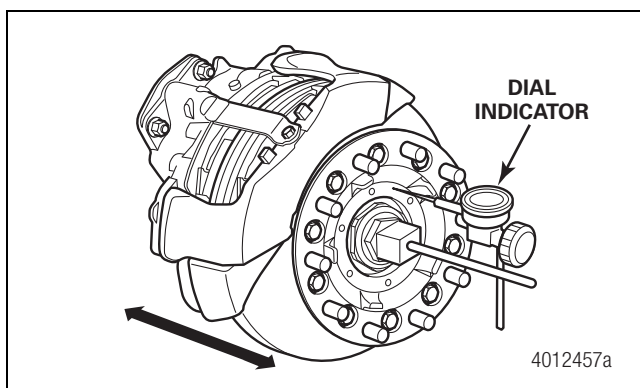

Figure 42
5. Attach a dial indicator with the magnetic base at the center of the spindle. Adjust the dial indicator so that the pointer is against the hubcap gasket face. Set the dial indicator on ZERO. Figure 42.